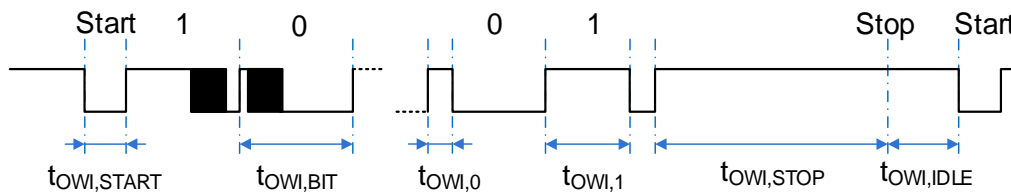
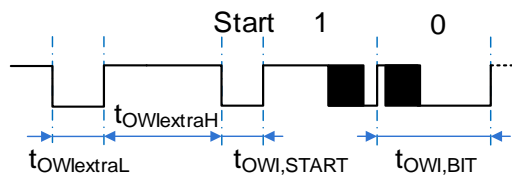

Figure 14. OWI Timing Diagram
Figure 15. OWI Extra (Activation) Pulse for Concurrent OWI and Analog Output Configuration
- **Valid Data:** Data is transmitted in bytes (8 bits) starting with the most significant bit (MSB). Transmitted bits are recognized after a start condition at every transition from low to high at the OWI line. The value of the transmitted bit depends on the duty ratio between the high phase and high/low period (bit period,  $t_{OWI,BIT}$  in Figure 14). A duty ratio greater than 1/8 and less than 3/8 is detected as 0; a duty ratio greater than 5/8 and less than 7/8 is detected as 1. The bit period of consecutive bits must not increase to more than 1.5 times the previous bit period or decrease to less than half of the previous bit period because a stop condition is detected in this case.
OWI protocol timing and parameters are specified in Figure 14, Figure 15, and Table 23.
- **Continuous OWI and Analog Output:** The configuration *owi\_off* = 0, *cont\_ANAoutn* = 0, and *owi\_su\_case* = 1 results in AOUT providing analog output levels as soon as they are available after power-up (in Cyclic Mode). Concurrently, the OWI listens to the AOUT1 pin in order to check for valid OWI commands. The OWI still needs to be enabled by means of the *Startup OWI* command. The physical protocol in this configuration requires an extra pulse (see Figure 15) prior the *Startup OWI* command. After the release of the extra OWI initialization pulse, the analog output is switched off2 and AOUT becomes the OWI I/O pin until the OWI startup window (according to *owi\_su\_length*) has elapsed. The OWI-master implements *Dynamic Driving* to avoid dynamic currents (due to DAC-output level changes) causing unwanted pull-up signal generation (via *ROWI,PULL*). When *Dynamic Driving Approach* is not applied in this configuration, set the constantly connected OWI-master pull-up resistances (*ROWI,PULL*) to ≥5.5kΩ to prevent erroneous OWI-start detections that can be triggered by changing DAC-output levels. Limit the interface speed to slower values with the proper setting, such as longer bit period.